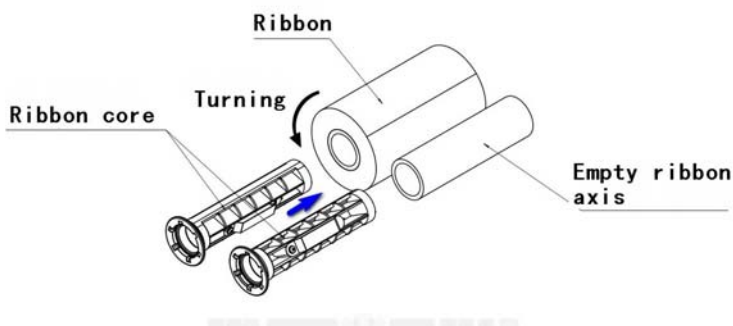

Figure 2.5.1
- 1) Push the ribbon core slightly in the direction of ribbon baffle to take off the ribbon core, and insert the two ribbon cores into the ribbon and empty ribbon axis respectively in the direction indicated in the figure. Pay attention to the winding direction of ribbon (see figure 2.5.1);